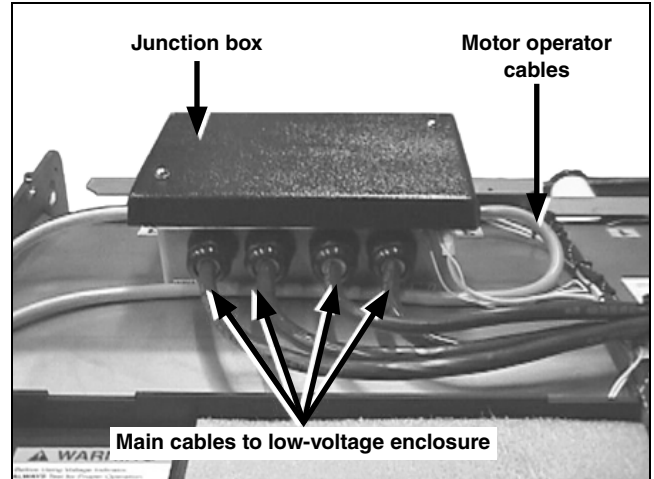

Figure 25. The junction box wiring.
- STEP 1.** Uncoil the junction box main cables that will be routed to the low-voltage compartment. See Figure 25. These cables have low-voltage connectors on the ends.